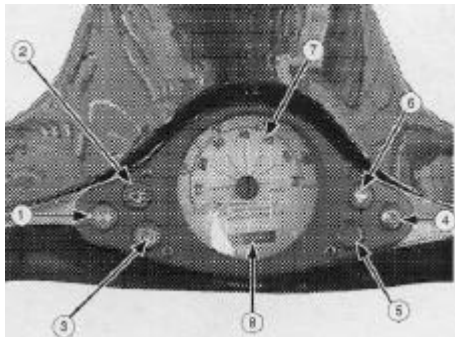
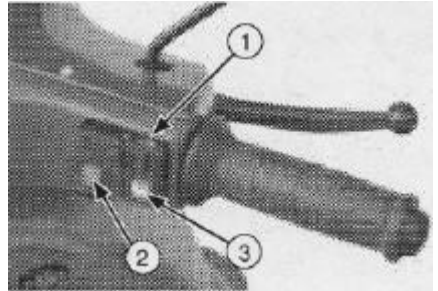

Fig. 4
Fig. 6
DASHBOARD (FIG.4)
CONTROLS ON THE RIGHT HANDLEBAR (FIG. 6)
3. Press the standard drive mode control (FIG. 6, pos. 2). The corresponding light (FIG. 4, pos. 5) stops blinking and remains steadily lit, indicating the engine is ready to be started.
The plug warning light on the dashboard (FIG. 4, pos. 2) comes on and an additional disabling function makes it impossible for the scooter to be started whilst the battery charger is working.
During the charging process the plug warning light on the dashboard (FIG. 4, pos. 2) is flashing, once 80% of the charging is reached, light remain on, to switch off once the charging is complete.